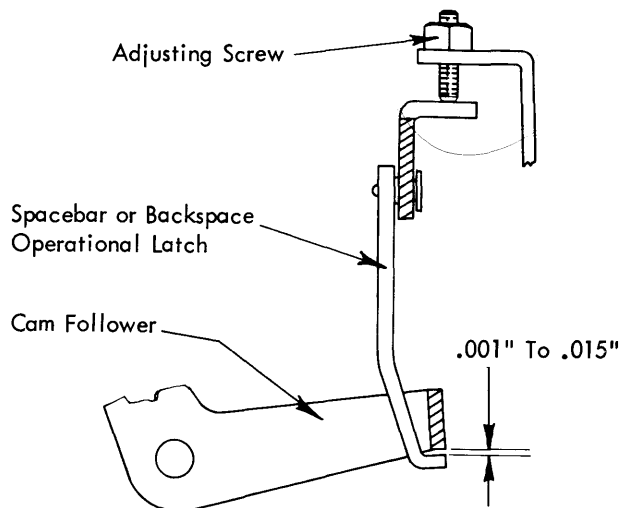

FIGURE 106. Latch Height
3. Operational Latch Height - Adjust the latch adjusting screws for the backspace and spacebar operational latches so that the latches will pass under the cam follower lever with a clearance of $.001''$ to $.015''$ (Fig. 106).